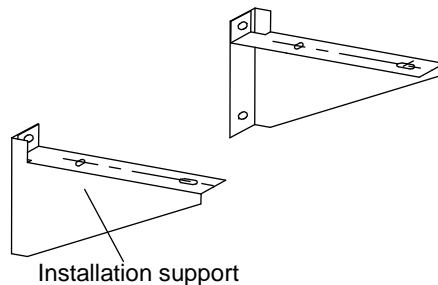

Fig.10
- If installation brackets for installing outdoor unit are needed, user could buy the brackets from our company or agents (Fig.10) .